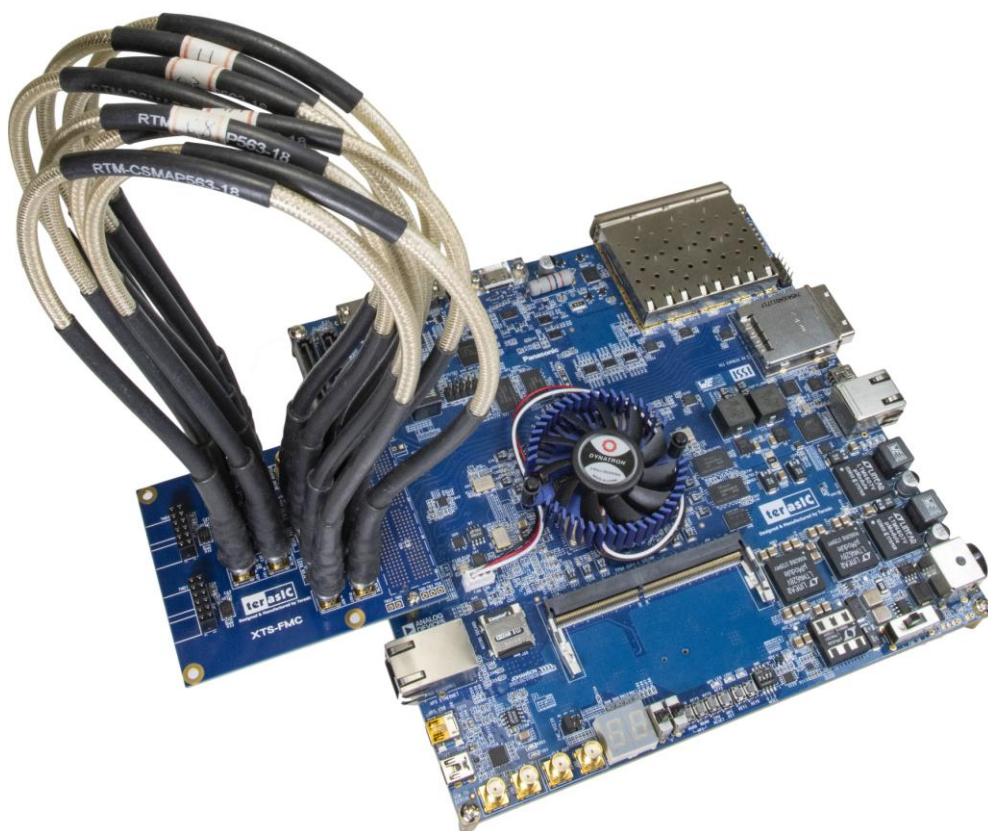

Figure 4-6 The Connections between the XTS-FMC and HAN Pilot Platform board
1. Use the SMA cables to connect the TX ports and the RX ports on the XTS-FMC card to implement the loopback function (See **Figure 4-6**).